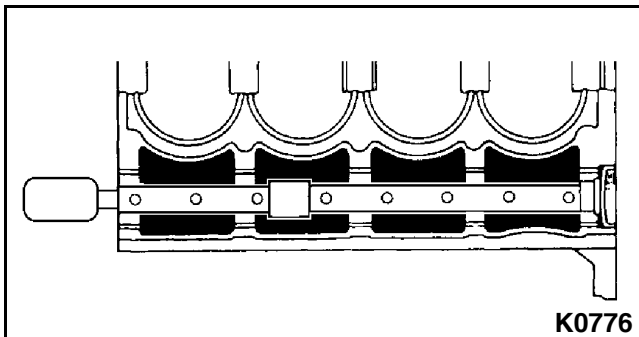

Figure 3-173
1. Use a block plug removal tool to remove the tight plug from the rear of the cylinder block behind number five camshaft bearing. **See Figure 3-173.**